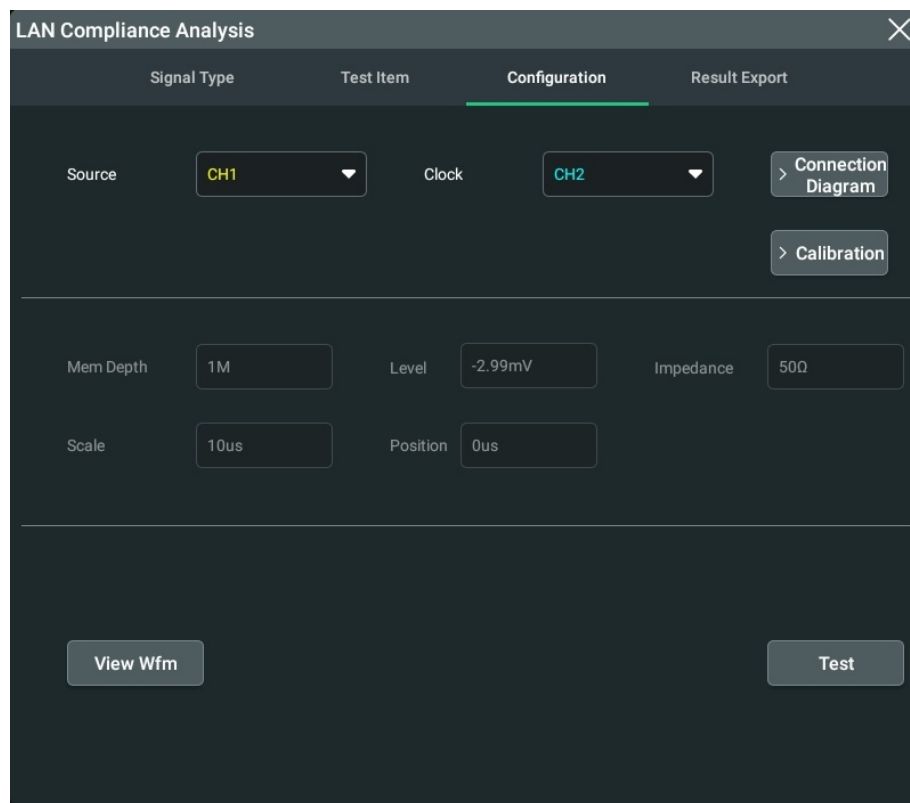

Figure 4.46 Test Configuration
4. After the specified signal type and test item are selected, the oscilloscope outputs a waveform based on the automatically set parameters such as level, scale, and impedance. Click or tap the **Configuration** tab to enter the "Configuration" menu. In this menu, you can view the parameters, as shown in *Figure 4.46*.